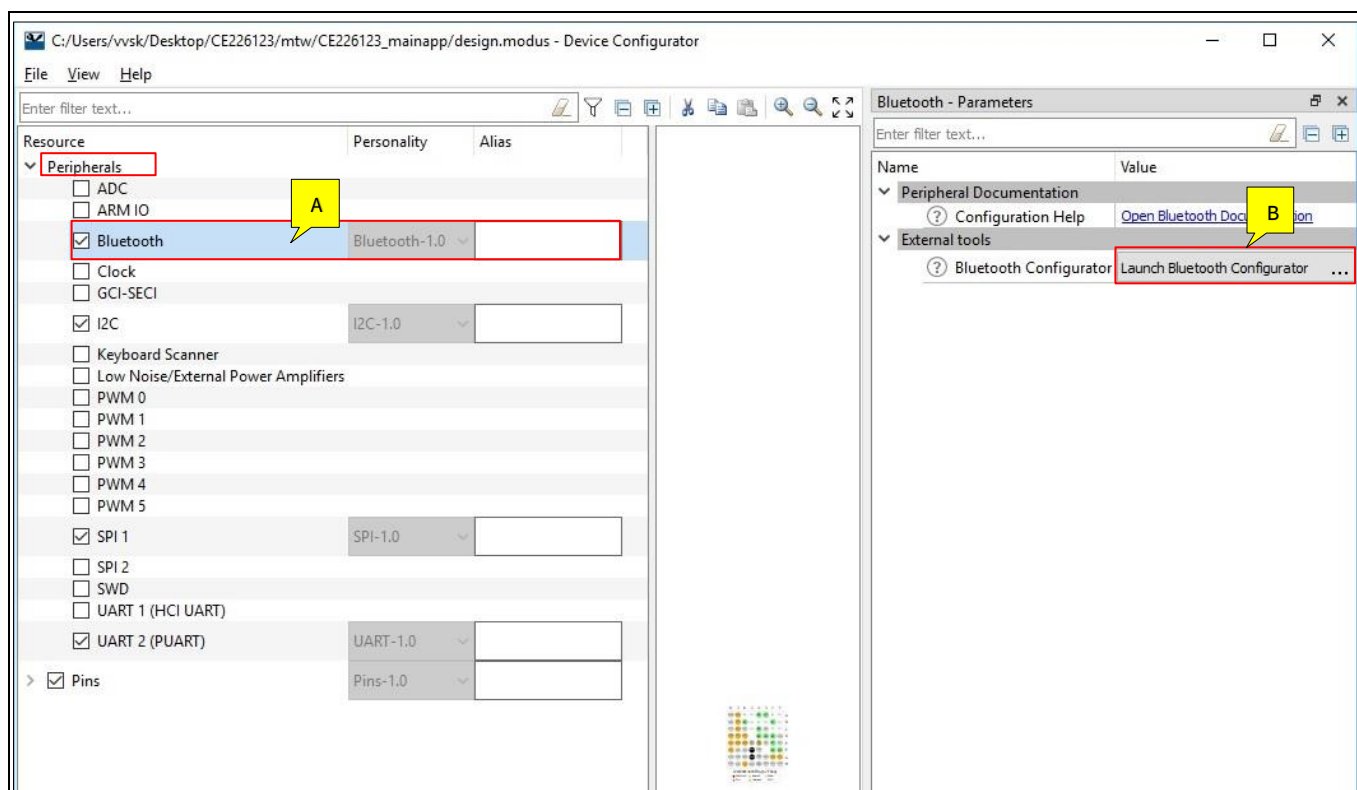
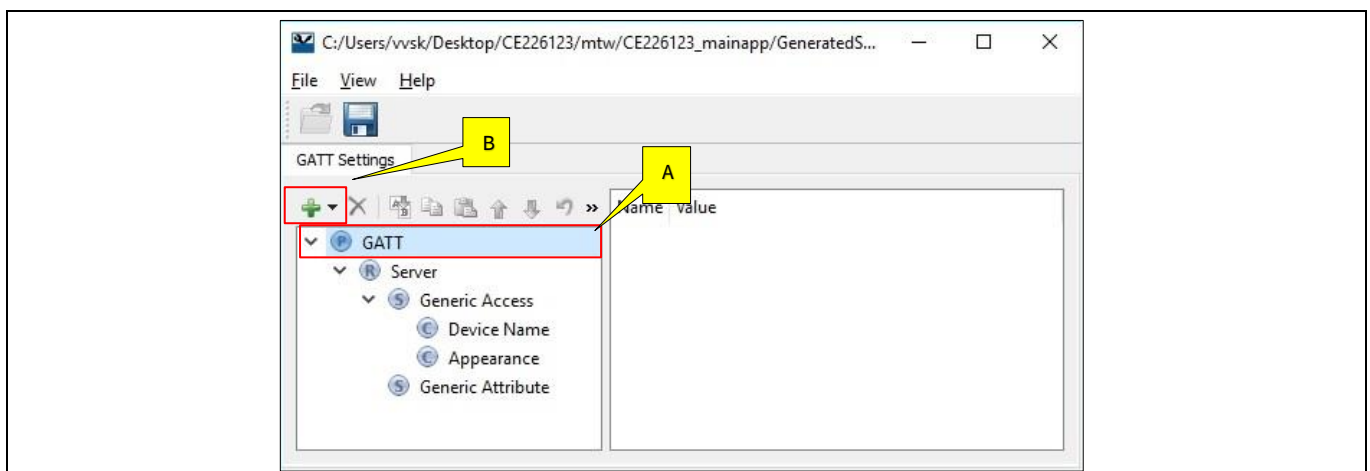
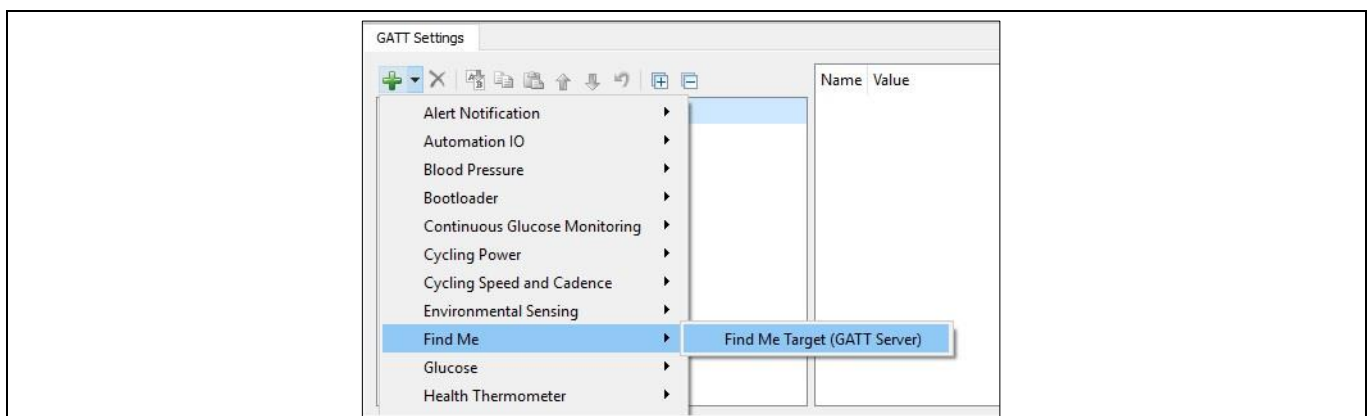

Figure 18 Device Configurator - Peripherals
Figure 19 Bluetooth Configurator
Figure 20 Adding Find Me Target Profile
Figure 18 shows the Device Configurator view showing the Peripherals view for this application.
- Peripherals:** The template application has the peripherals on the kit enabled by default as shown in Figure 18 (Bluetooth, I²C, SPI 1, UART 2). For the Find Me application, only the Bluetooth and PUART (UART 2) peripherals are used. However, we can leave the default peripheral enable/disable settings as they are in the
- **Bluetooth Configurator:** The Bluetooth peripheral has an additional configurator called the Bluetooth Configurator that is used to generate the Bluetooth Low Energy GATT database for the application. For the Find Me Profile application, we need to generate a GATT database corresponding to the Find Me Target role of the CYW20819 device. To launch the Bluetooth Configurator from the Device Configurator window, click on the **Bluetooth** resource under the **Peripherals** section, and then click on the **Launch Bluetooth Configurator** button under the **Bluetooth-Parameters** window (as shown in callouts A and B in Figure 18). The default view of the Bluetooth Configurator is shown in Figure 19.
To add the Find Me Target profile, click on **GATT** profile (A in Figure 19), and then the **+** icon (B in Figure 19). Select the **Find Me Target (GATT Server)** profile from the drop-down menu as shown in Figure 20.